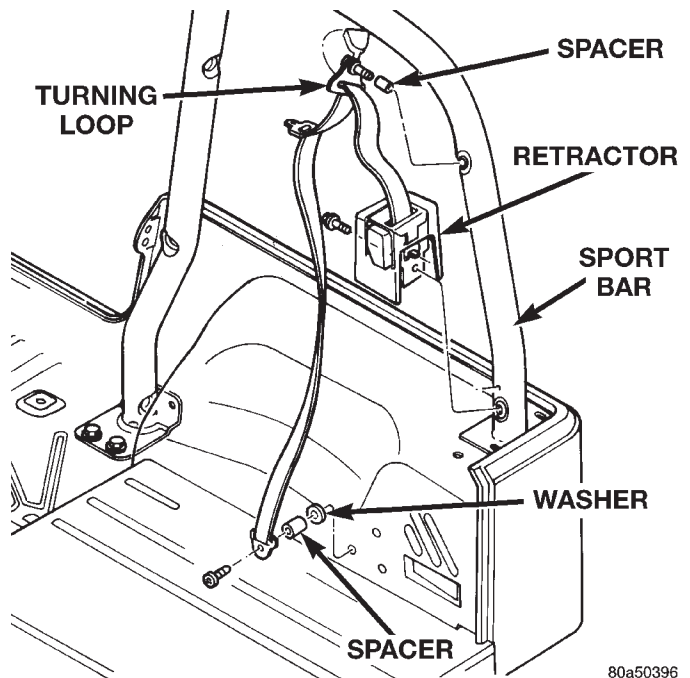

Fig. 56 Rear Belt Assembly
- (1) Move the rear seat to the forward tumble position.
- (2) Remove the anchor bolt attaching the belt to the wheelhouse (Fig. 56).